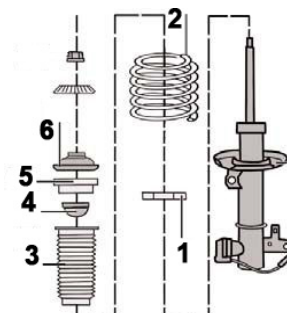

Fig. 7:
1. **Fig. 7** Clamp the suspension strut in a suitable holding device and apply spring tensioner.
4. **Fig. 7** Position original suspension spring with add-on parts (1 - 6).